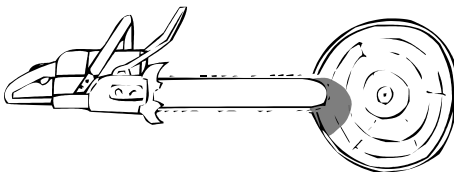

Figure 69 Swing into plunge cut position
3. Swing saw slowly into plunge cutting position. (Fig. 69)